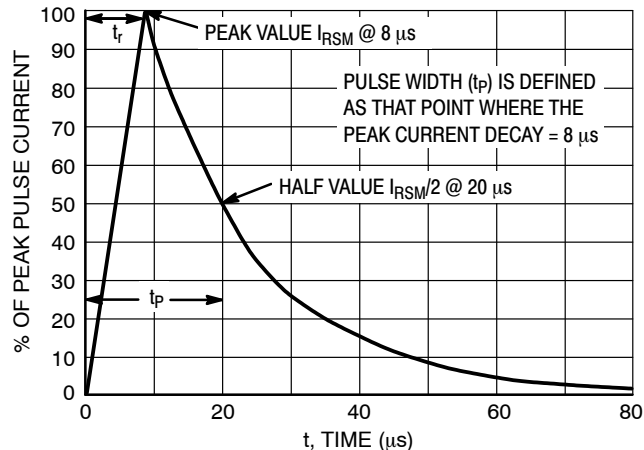

Figure 5. 8 X 20 μ s Pulse Waveform
3. Surge current waveforms per Figure 5.